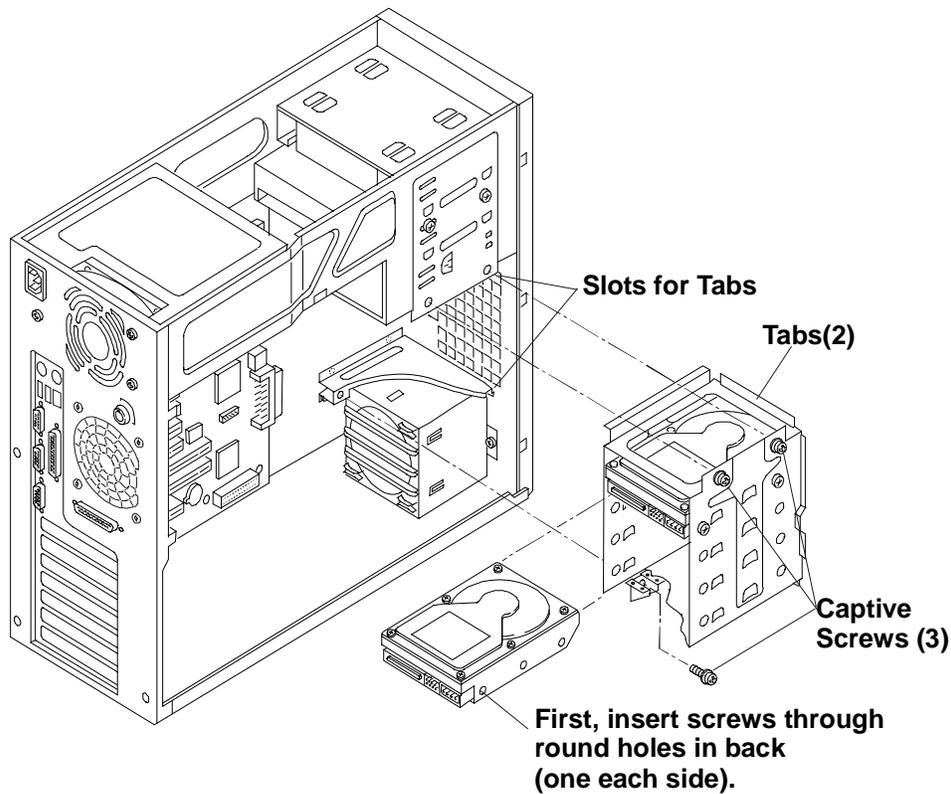

Figure 3-2. Adding a Hard Disk Drive
8. Remove the hard disk drive cage from the chassis. See Figure 3-2.
9. Slide the drive into the available cage opening with the cable connectors toward the rear of the NetServer. See Figures 3-2 and 3-3.
- c. Repeat steps a-b on the other side of the cage. See Figures 3-2 and 3-3.
Ensure the tabs at the front on the cage slide into the slots provided for each one. See Figures 3-2 and 3-3.